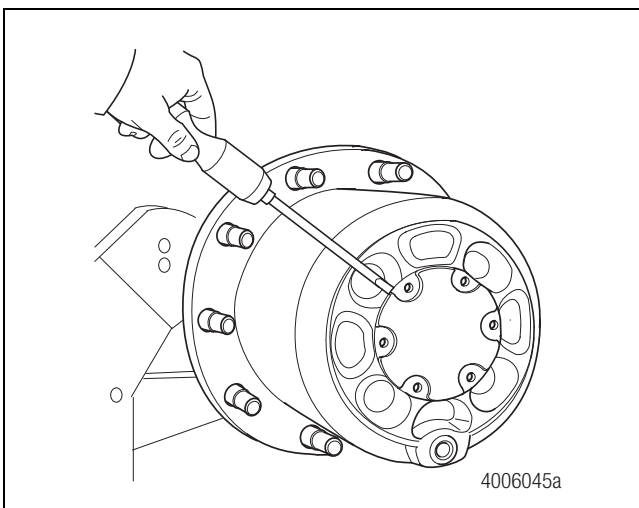

Figure 3.19
5. Use a screwdriver or pry bar to pry up and remove the hub cover. Figure 3.19.